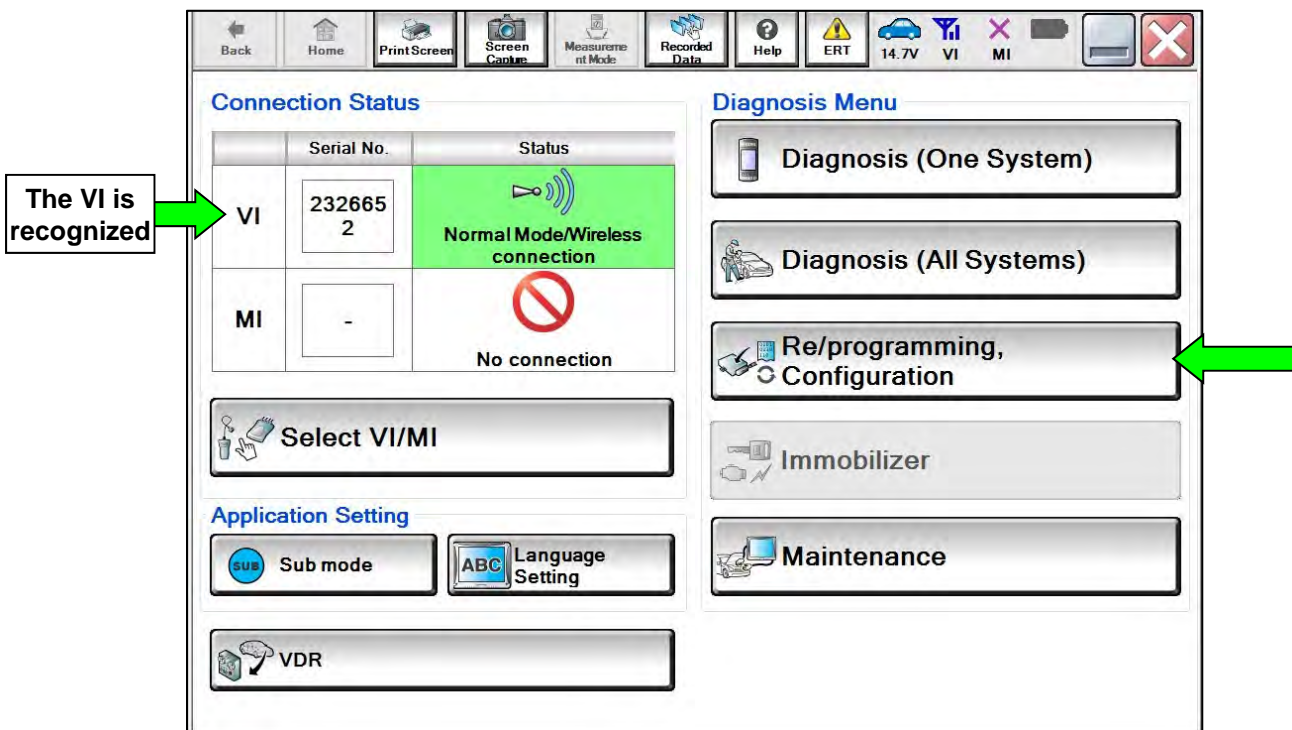

Figure 2
7. Wait for the VI to be recognized (Figure 2).